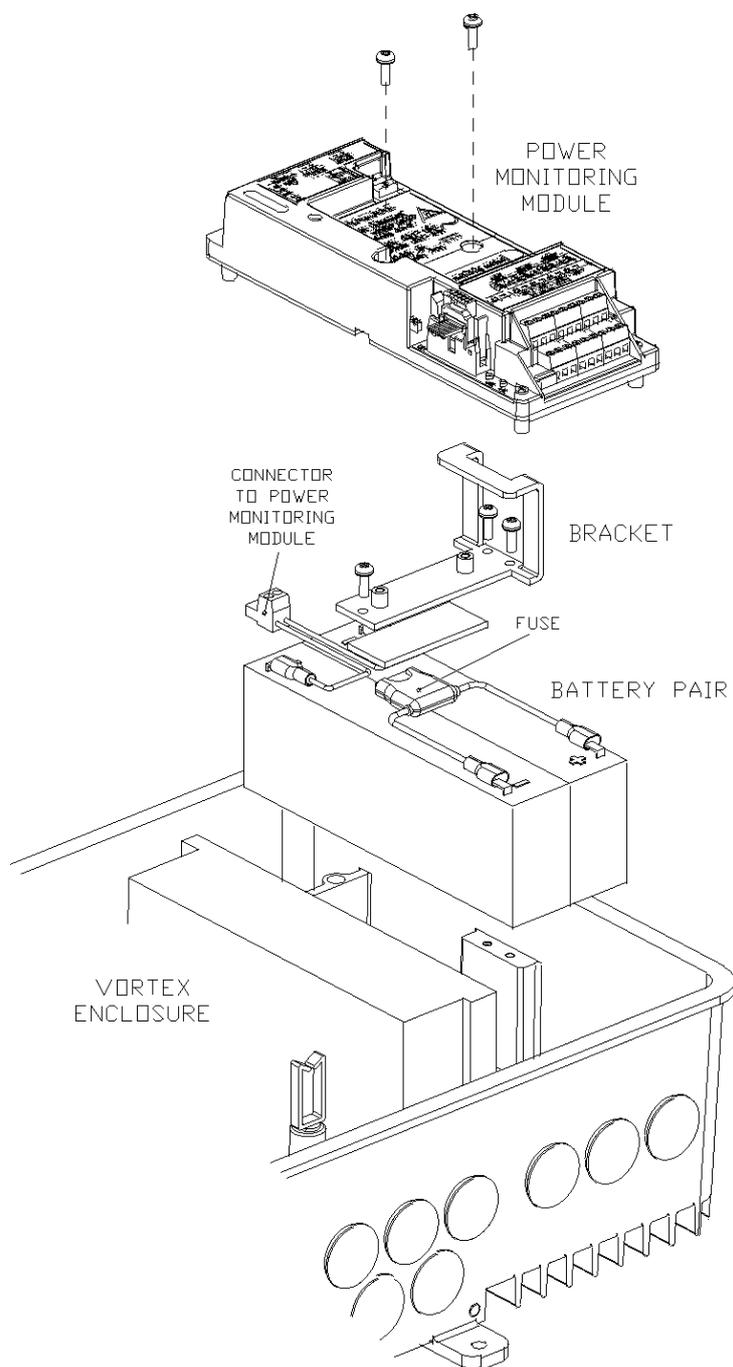

Figure 15: Removing batteries from Vortex Standard Enclosure
2. Unscrew the two large central screws on the Power Monitoring Module and gently pull it out without disconnecting any other cables (see Figure 15).